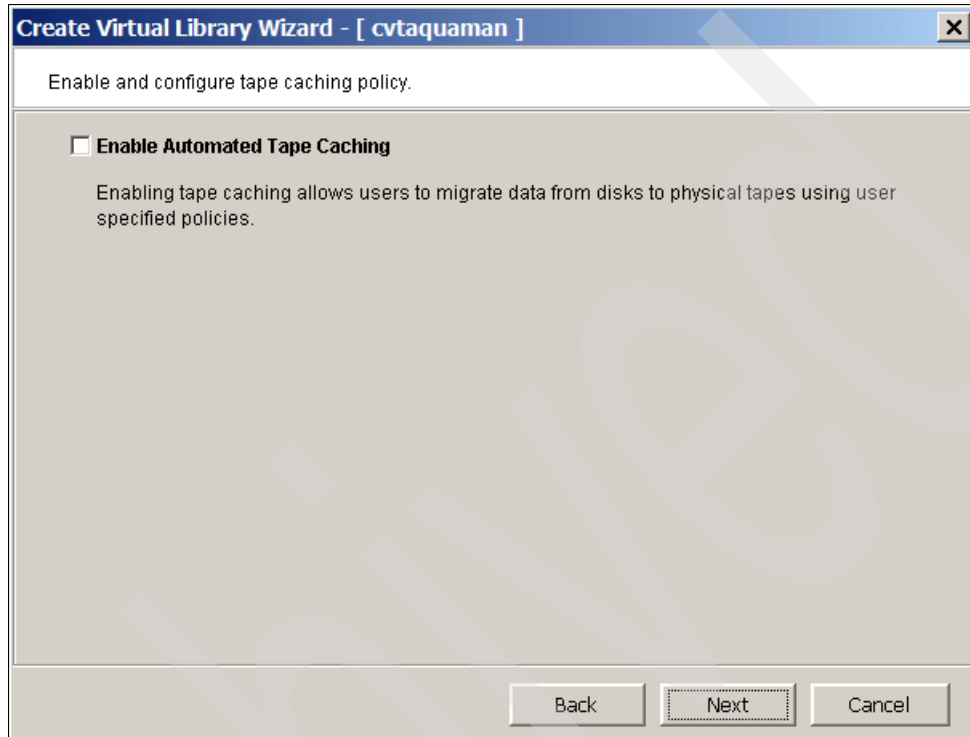
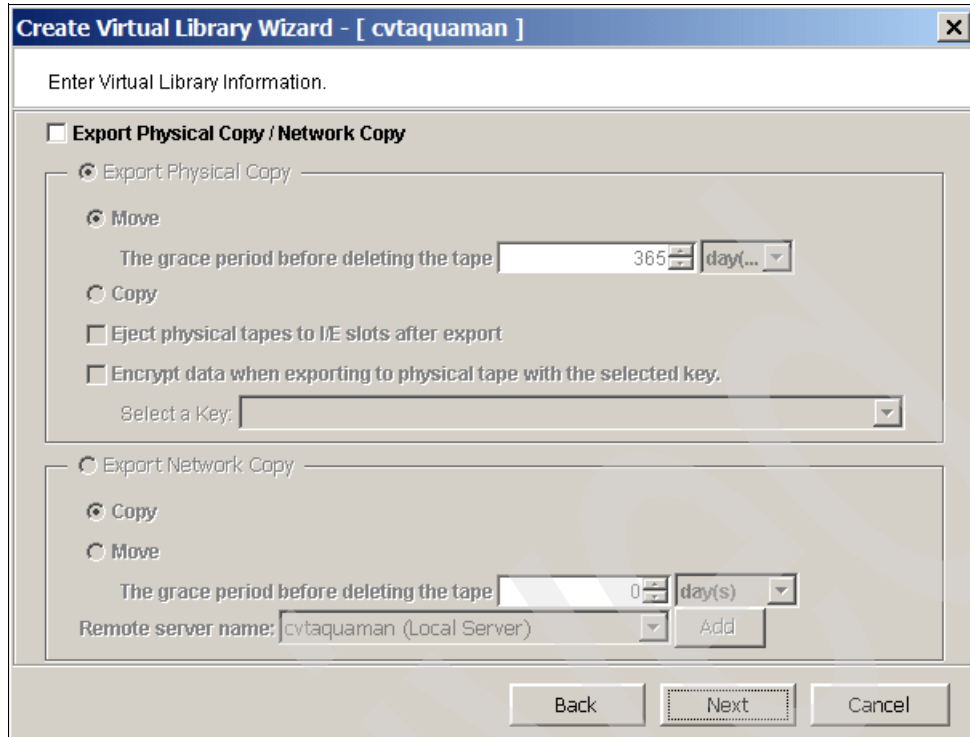

Figure 8-9 TS7500 - Enable Automatic Tape Caching
Figure 8-10 TS7500 - Export to physical tape
5. In the panels *Enable and Configure Tape Caching Policy* (Figure 8-9) and *Enter Virtual Library Information* (Figure 8-10), we can select Auto Archive / Replication. You can select this option if the TS7500 should automatically move or copy virtual volumes to physical tape or to another TS7500, whenever a virtual tape volume is moved to the virtual input/output station (I/O station).
Note that the Auto Archive functions are for use by non-System i platforms. If this virtual tape library is assigned to only i5/OS, you should not select Auto Archive. If another Virtualization Engine TS7500 is available for replication, you can select the Auto Replication function (Figure 8-10).